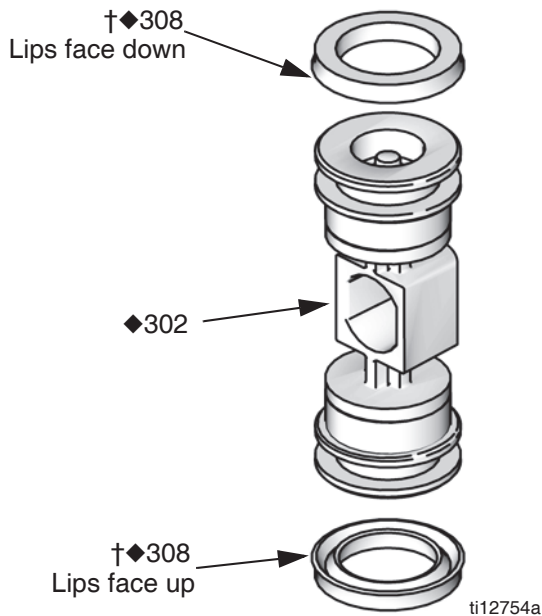

FIG. 7
2. See FIG. 7. Lubricate the u-cups (308†♦) and install on the piston (302♦) with lips facing toward the center of the piston.